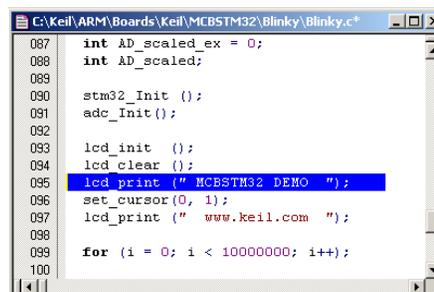

Figure 7 Changing the Text on the LCD
1. In the file blinky.c scroll to line number 095 as shown in Figure 7.